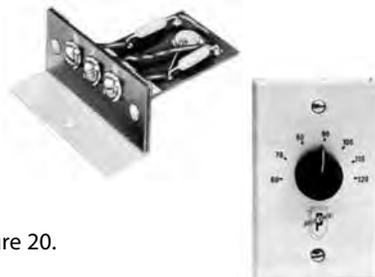

Figure 20.
- A choice of room thermostat, page 12, Figure 15 or 16; duct thermostat, page 13, Figure 20 or 21; built-in PE transducer, page 13, Figure 17; or field inputs of 135 ohms, 2200 ohms, 0-10 VDC and 4-20mA are available.